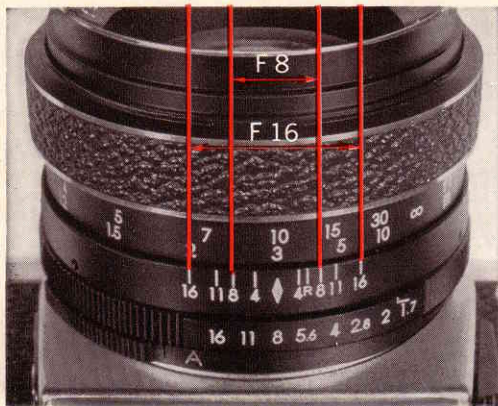

Fig. 23
### (B) Depth of Field Scale (Fig. 23)